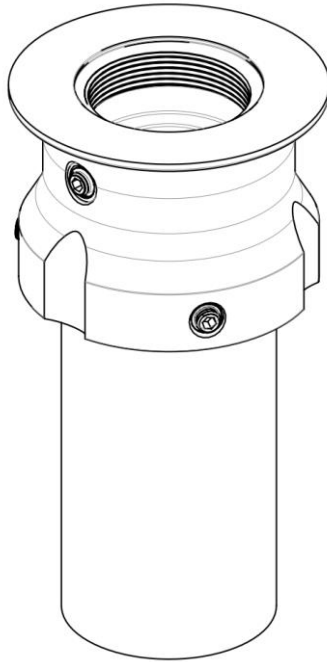
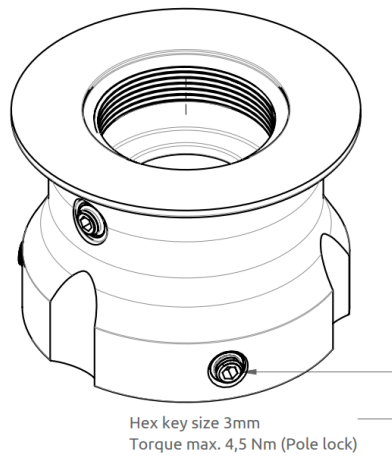
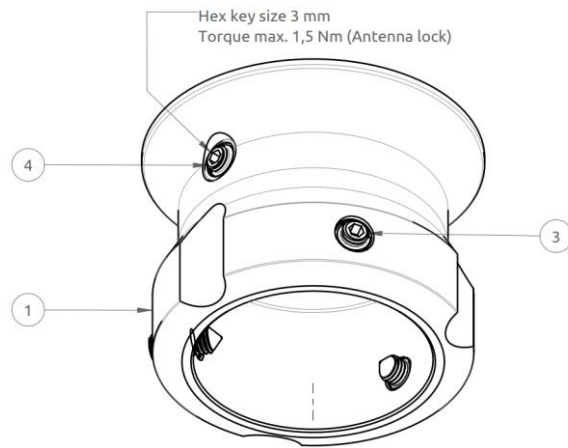

Figure 28: Pole Mount (2.0" pipe, Ø53.0 mm), Antenna Unit.
Figure 29: Pole Mount (2.0" pipe, Ø53.0 mm), Antenna Unit.
Figure 30: Pole Mount (2.0" pipe, Ø53.0 mm), Antenna Unit.
The Pole Mount (2.0" pipe, Ø53.0 mm), Antenna Unit is illustrated in Figure 28 to Figure 30.
4. Screw the pole mount (clockwise) on the LT-3130 Antenna Unit, and fasten the antenna lock pinot screw, as illustrated in Figure 30 (max torque = 1.2 Nm)
5. The LT-3130 Antenna Unit and pole mount can now be mounted on the 2.0" pipe. Fasten the three pole lock pinot screws, as illustrated in Figure 29 (max torque = 4.5 Nm)
NOTE: The Pole Mount (2.0" pipe, Ø53.0mm), Antenna Unit only supports a 2.0" pipe. The pinot screws (antenna and pole lock) torques are specified in Figure 29 and Figure 30. The pole mount is made of milled aluminum (anodized). The pinot screws are made of A4 stainless steel.